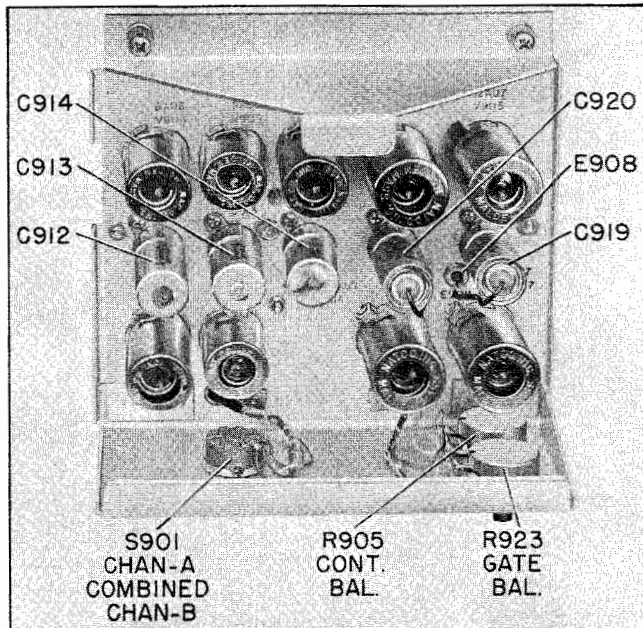

Figure 7-17. Diversity Selector Unit Chassis,
(1) Connect the test oscilloscope to pin 1 of V601 before turning on the power. Turn on the power and adjust the test oscilloscope to 30 cycles sweep frequency, giving a pattern with two complete cycles. A signal indicates that the 1,2,3 triode of V601 is working satisfactorily. Turn off power and remove oscilloscope leads.
(2) Connect the test oscilloscope to pin 7 of V601. Turn on the power and check the three positions of S601, the SPEED switch. Low and HIGH positions should give the same amplitude, but the ADJ position may give a different amplitude since the signal will be coming from a different source. Return S601 to its original position. This checks the signal to the grid, pin 7, of V601B.
(3) Connect the test oscilloscope to E610. A signal with the same shape but increased amplitude, compared to step (2), should be obtained.
(4) With the power turned off, connect the test oscilloscope input to the indicated pins of tubes V603 and V604 in the order 2,7,1,6. Turning on the power, a square wave should be obtained in all cases with the NORM-REV switch in either position. If the signal is anything but a square wave, check the values of parts in the circuits of the tubes V603 and V604.
(5) Turn off power, connect the test oscilloscope to either pin 1 or 7 of first V607, and then V608, turning on the power every time. If the square-wave keying signal is obtained, turn the power off and change the test oscilloscope lead to pin 5 of V607. Turn the power on, and if no signal is obtained the trouble is in the output circuits of the keyer tubes V607 and V608.
(6) Connect the test oscilloscope to the center contact of the TONE LEVEL control R629 or pin 7 of V605 to check the Tone Oscillator operation. Further check of tube V605 can be had by connecting the test oscilloscope (with the power turned off) to pin 6 of V605 and then across the output (terminals 3 and 4) of T601.
*b.* DIVERSITY SELECTOR UNIT.—See Figures 7-17, and 7-18. Check tubes, then circuit check the unit for shorts, open circuits or off-value parts (see Figures 7-44, 7-45 and Table 7-10).